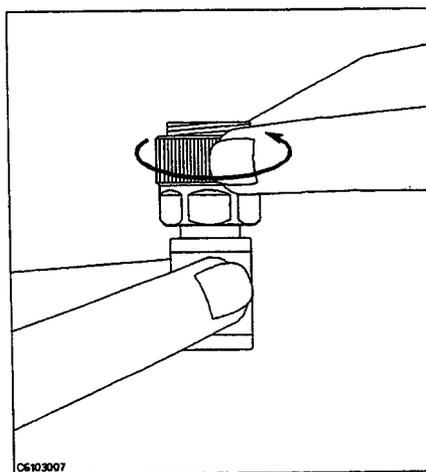

Figure 3-8.
11. Turn only the APC-7[®] connector nut of the $50\ \Omega$ termination as shown in Figure 3-8.